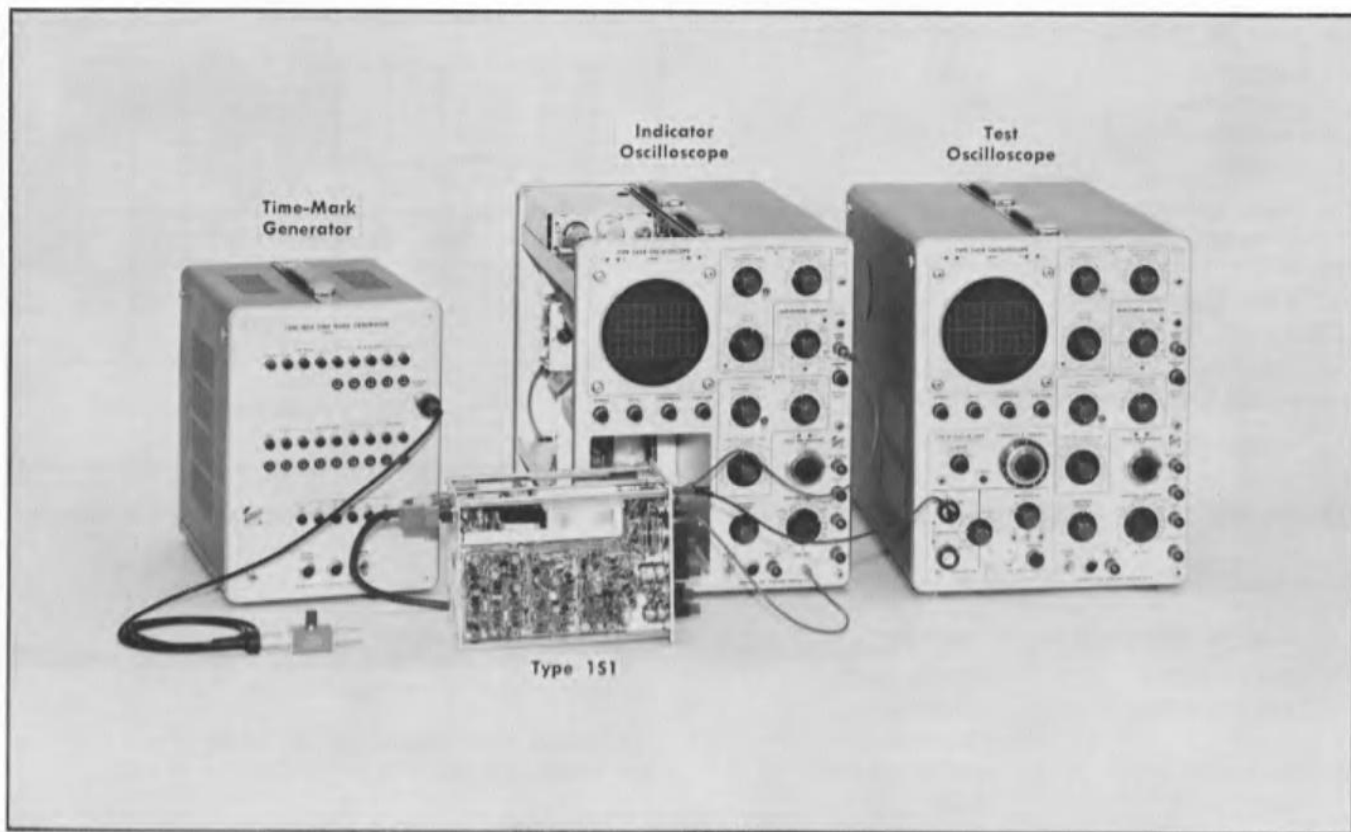

Fig. 5-14. Initial test equipment setup for steps 8 through 10.
- a. Test equipment setup is shown in Fig. 5-14.
- c. Connect a BNC/banana patch cord from the Type 1S1 HORIZ OUTPUT jack to the test oscilloscope vertical input connector. The patch cord from the HORIZ OUTPUT jack to the indicator oscilloscope Ext Horiz Input jack should remain in place (see Fig. 5-14).